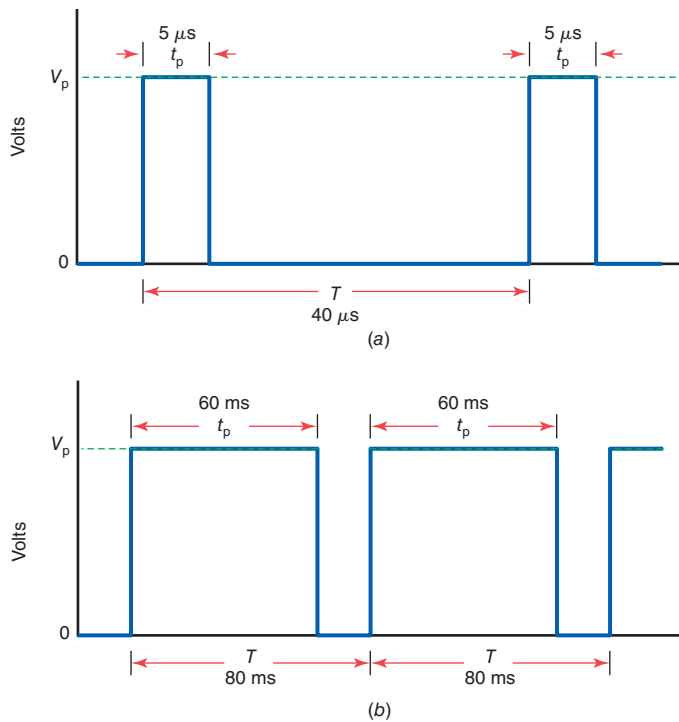

Figure 14-18 Duty cycles. (a) Short. (b) Long.
Another important characteristic of dc pulses is that their ON and OFF times are often different. Figure 14-18 shows several examples. In Fig. 14-18a, the pulse ON time is very short while the OFF time is long. Figure 14-18b shows a pulse with a long ON time and a short OFF time. This characteristic is referred to as the pulse duty cycle (D). Duty cycle is defined as the ratio of the pulse on time (t_p) to the period.